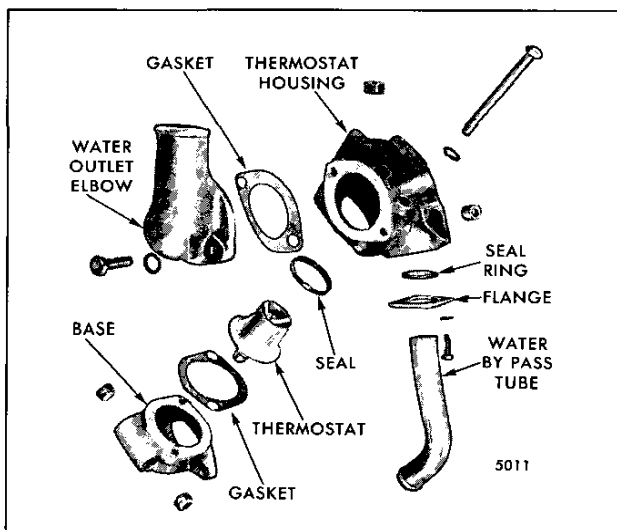

Fig. 4 – Thermostat Housing Details and Relative Location of Parts (V-Type Engine)
4. On the V-type engine, remove the crossover bypass tube which is located between the thermostat housings. Also disconnect the bypass tube between the water pump and the thermostat housing (Fig. 4). Remove the gaskets. Then loosen the bolts and remove the thermostat housings from their bases. Remove the thermostats and remove and discard the thermostat seals.